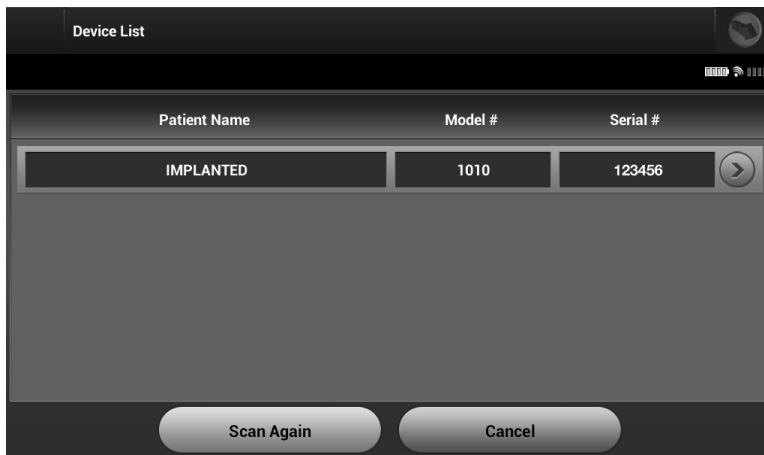

Figure 14: *Device List screen (scrollable list)*
2. When the scanning process is complete, a list of all SQ-RX devices detected (up to 16) will be displayed on the Device List (Figure 14). The SQ-RX devices that are in Shelf mode will be displayed as “Not Implanted.” Any SQ-RX devices that were previously taken out of Shelf mode are displayed either as “Implanted” or with the stored patient name.